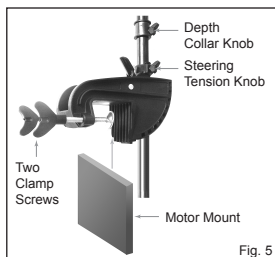

Fig. 5
2. Install the motor on the motor mount and tighten the two clamp screws securely. (See Fig. 5)